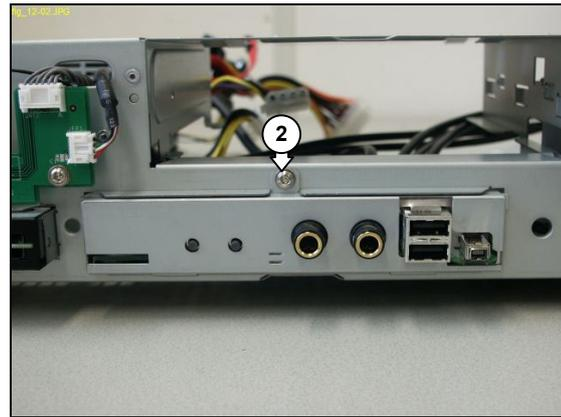

Figure 12.11-2
7. Remove the mounting screw (2) from the FP I/O board subassembly. See Figure 12.11-2.